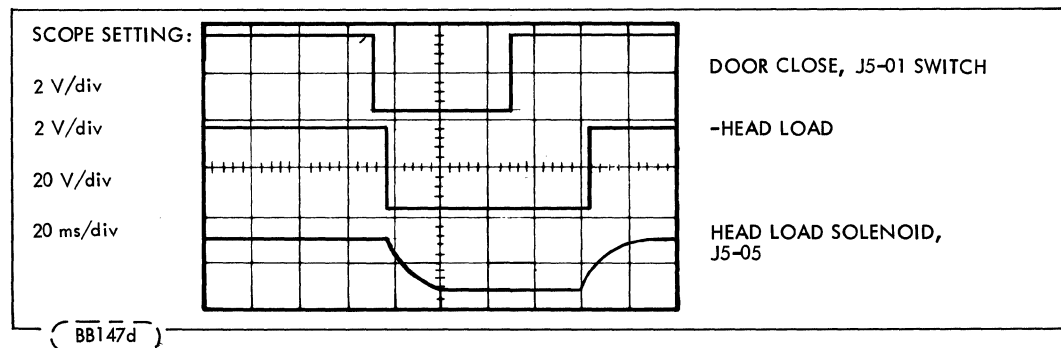

FIGURE 6-1. -HEAD-LOAD AND DOOR-CLOSE SWITCH
- c. Signals should conform to Figure 5-1 and Figure 6-1 through 6-4.